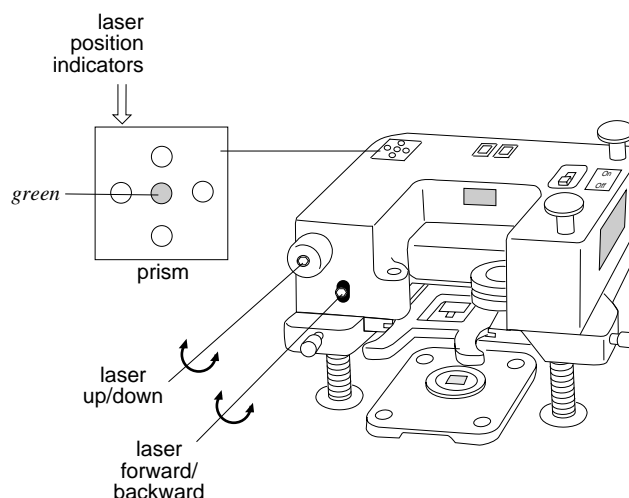

Figure 2-26. Adjusting the PSPD position up/down and forward/backward.
5. Adjust the position of the PSPD to align the laser spot with the center of the PSPD. The laser position indicator has five lights. Four lights are red and one light is green. The green light is at the center of the indicator. When the PSPD is correctly positioned, the center green light is on. When the PSPD is *not* correctly positioned, one or more red lights will be on. Figure 2-26 shows how the PSPD adjustment screws move the PSPD.